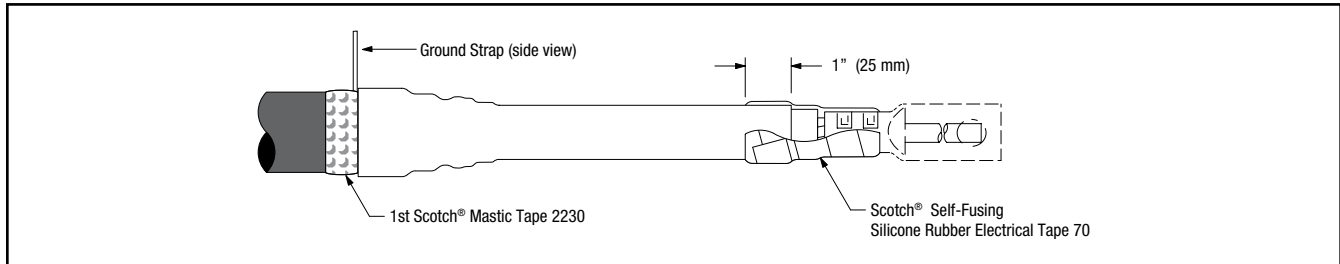

Figure 14
Apply 1 half-lapped layer of Scotch® Self-Fusing Silicone Rubber Electrical Tape 70 over at least 1/2" (13 mm) of lug barrel and onto the termination insulator for 1" (25 mm) (*Figure 14*).
- Bend the Ground Strap away from the cable jacket, towards the bottom of the installed termination body, to about a 90 degree angle. (*Figure 14*).
- Select a Scotch® Mastic Strip 2230 from kit and remove white release liners. Using light tension, apply a **SINGLE WRAP** of mastic around the cable jacket directly against the bottom of the termination body (*Figure 14*). Cut off excess.